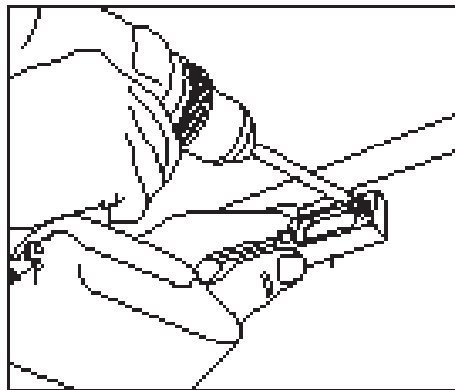

Fig.7
2. Position the hanger blocks using the marks as a center guide with the wide side down and a 1/8" gap between the hanger block and awning hanger rail. Use a Phillips screwdriver or drill bit to secure the hanger blocks with 1-1/4" self-tapping screws. (**Fig.7**).